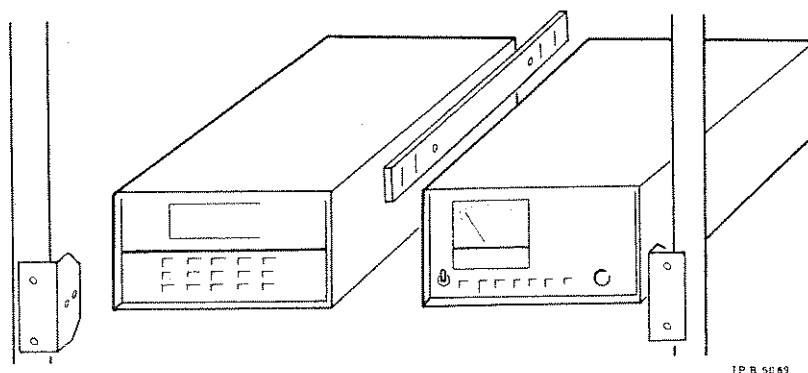

Fig. 3 Twinned unit rack mounting
9. For rack mounting the 2022 side by side with another instrument of similar modular construction, a double unit rack mounting kit 46883-717K is available. Fixings for joining the two instruments together and attaching both to the rack are shown in Fig. 3. For detailed information on kit parts, assembly etc., refer to the fitting instructions supplied with each rack mounting kit.